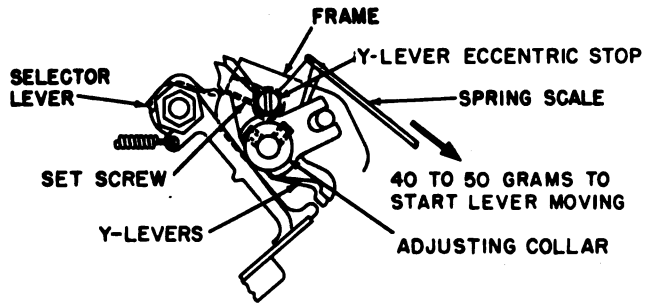

Figure 3-124. Y-lever function adjustment (TT-4A/TG and TT-698/TG ).
(fig. 3-124)
*a. Requirement.* A force of 40 to 50 grams, applied with a spring scale at the point shown in figure 3-124, should be required to start each Y-lever moving from the counterclockwise to the clockwise position.